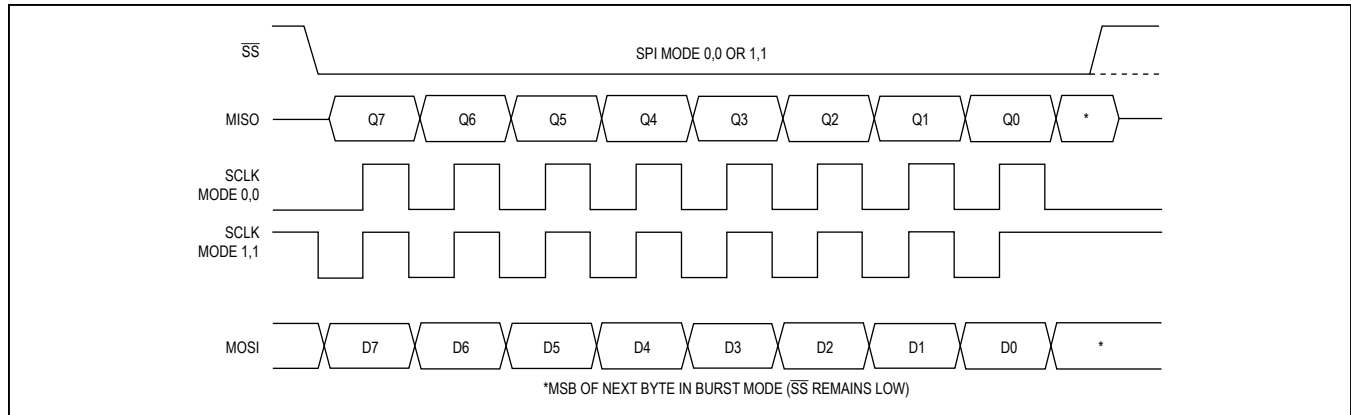

Figure 14. SPI Clocking Modes
The SPI master provides the MAX3420E SCLK signal to clock the SPI interface. SCLK has no low-frequency limit, and can be as high as 26MHz. The MAX3420E changes its output data (MISO) on the falling edge of SCLK and samples input data (MOSI) on the rising edge of SCLK. The MAX3420E ignores SCLK transitions when $\overline{SS}$ is high. The inactive level of SCLK may be low or high, depending on the SPI operating mode (Figure 14).
The MAX3420E SPI interface operates without adjustment in either SPI mode (CPOL = 0, CPHA = 0) or (CPOL = 1, CPHA = 1). No mode bit is required to select between the two modes since the interface uses the rising edge of the clock in both modes. The two clocking modes are illustrated in Figure 14. Note that the inactive SCLK value is different for the two modes. Figure 14 illustrates the full-duplex mode, where data is simultaneously clocked into and out of the MAX3420E.
- (1) When $\overline{SS}$ is high, the MAX3420E is unselected and three-states the MISO output.
- (2) After driving SCLK to its inactive state, the SPI master selects the MAX3420E by driving $\overline{SS}$ low. The MAX3420E turns on its MISO output buffer and places the first data bit (Q7) on the MISO output (Figure 14).
- (3) The SPI master simultaneously clocks the command byte into the MAX3420E MOSI pin, and USB status bits out of the MAX3420E MISO pin on the rising edges of the SCLK it supplies. The MAX3420E changes its MISO output data on the falling edges of SCLK.
- (4) After eight clock cycles, the master can drive $\overline{SS}$ high to deselect the MAX3420E, causing it to three-state its MISO output. The falling edge of the clock puts the MSB of the next data byte in the sequence on the MISO output (Figure 14).
- (5) By keeping $\overline{SS}$ low, the master clocks register data bytes out of the MAX3420E by continuing to supply SCLK pulses (burst mode). The master terminates the transfer by driving $\overline{SS}$ high. The master must ensure that SCLK is in its inactive state at the beginning of the next access (when it drives $\overline{SS}$ low). In full-duplex mode, the MAX3420E ignores data on MOSI while clocking data out on MISO.